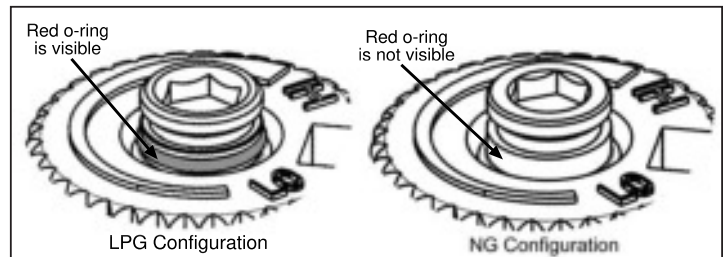

Figure 23: O-ring on valve screw.
- g) Verify that if the conversion is from NG to LPG, the screw must be re-assembled with the red o-ring visible (refer to Figure 23). If the conversion is from LPG to NG, the red o-ring of the screw must be not visible.